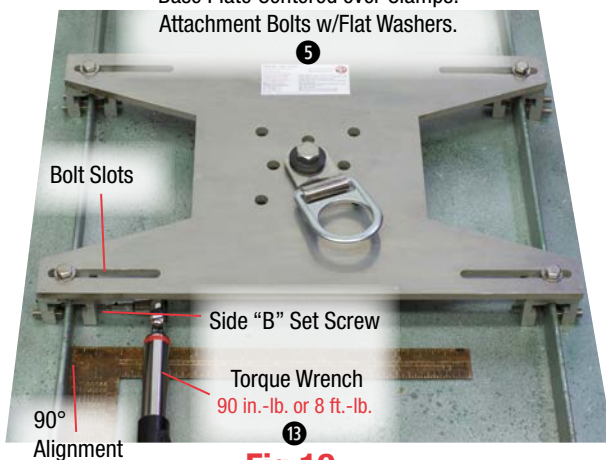

Fig.19
- 5) Attach base plate to clamp #1 with 3/8"x1.0" bolt w/flat washer and leave loose to allow for base plate movement during final clamp torqueing. See Fig.19.
- 8) Using a calibrated torque wrench set at 90 in.-lb. or 8 ft.-lb. tighten each clamp separately, starting with side "B" set screw first as shown at Fig.19, then tighten both side "A" screws alternately as shown at Fig.20 to maintain clamp centering as close as possible. After final torqueing, make a second pass to ensure torque specification has been met.